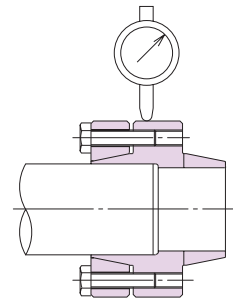

Figure 1
- (1) Attach the coupling to one shaft, and fasten the outer ring as described in the product's user manual.
- (2) Leave the outer ring for the other shaft unfastened. This shaft is allowed to rotate freely within the coupling's bore.
- (3) Fasten the dial gauge to the base (such as the coupling case), and check the runout of each shaft as described below.
- a. Check the runout of the shaft with the connected coupling by placing the dial gauge against the outer circumference of the center flange in the body of the coupling. Rotate this shaft and read the runout. Adjust the runout to within 3/100 (Figure 1).
- (4) Check that both runout values shown by the dial gauge are within the standard value, then fasten the second outer ring as described in the product's user manual.
- (5) Finally, read the runout of the body's flanges, and check that it is within 3/100.